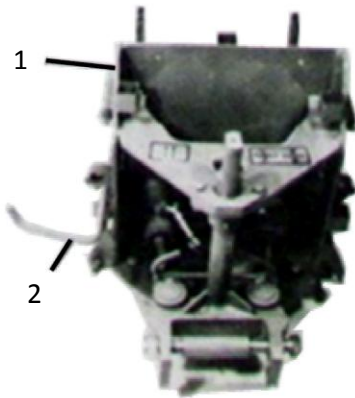

Fig. 3
(2) Install the left step (Item 3) in the step mounting receptacle located on the left side of the Backhoe main frame with orientation of the step as shown in Fig. 3.
(3) Repeat step two to install the right step (Item 2).